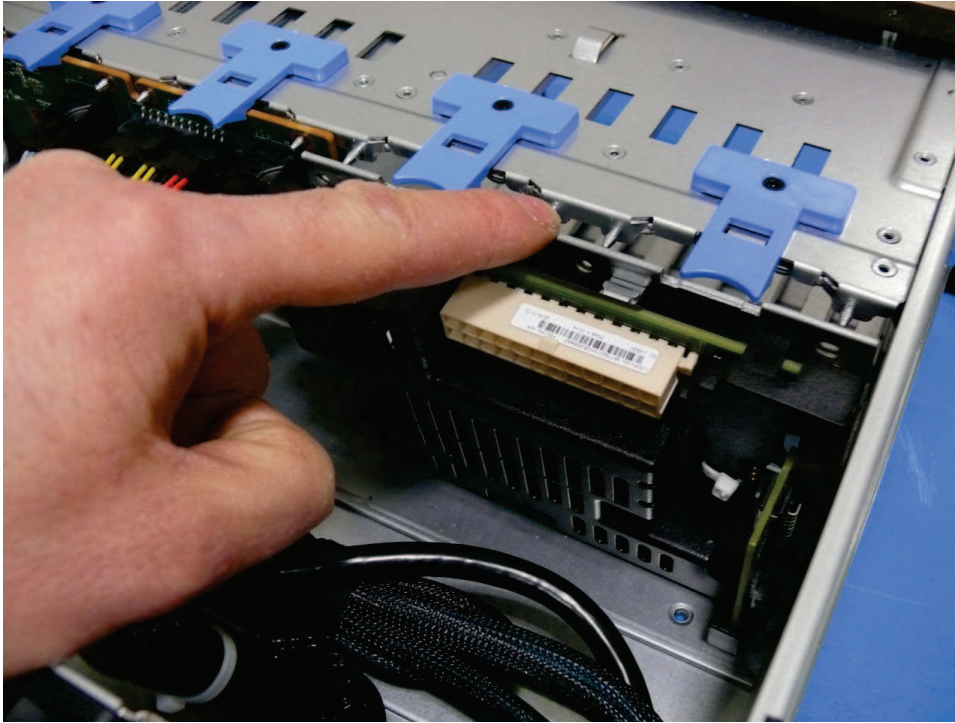

Figure 153. Removing the 2145-SV1 battery backplane
1. Raise the blue locking tabs and slightly pull back the battery backplane, as shown in Figure 153 on page 185. Then, lift the battery backplane from the chassis.